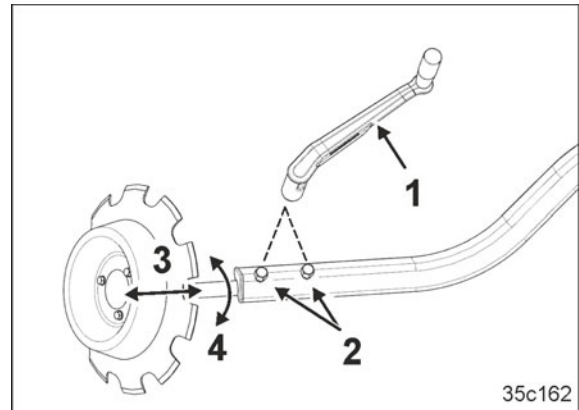
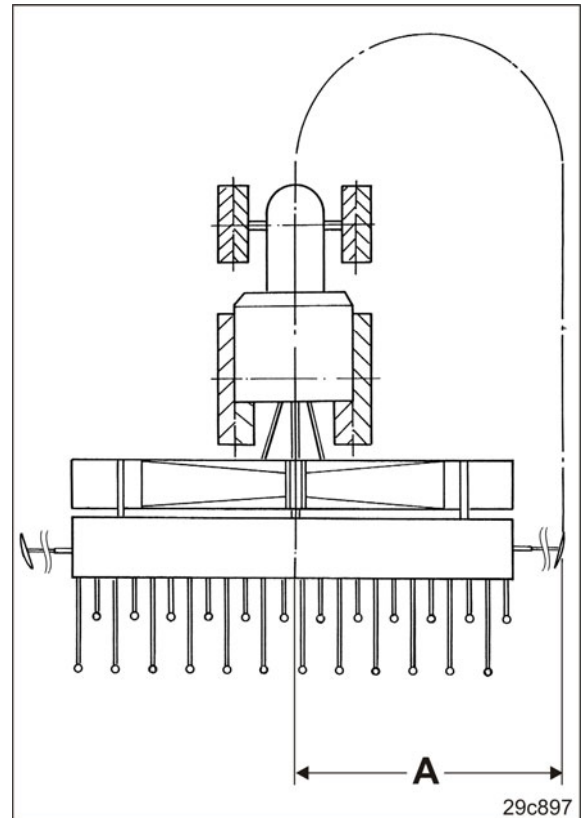

Fig. 135
Fig. 136
- The length of the track marker (Fig. 135/3)
- The working intensity of the track marker, depending on the type of soil (Fig. 135/4).
2. Loosen the bolts (Fig. 135/2) with the operating tool (Fig. 135/1)
3. Adjust the track marker length by shifting (Fig. 135/3) to length "A" [see Table (Fig. 136)].
4. Adjust the working intensity by turning (Fig. 135/4) the track marker axis so that it runs roughly parallel to the direction of travel on light soils and stand more on grip on heavier soils.
5. Tighten up the bolts (Fig. 135/2).